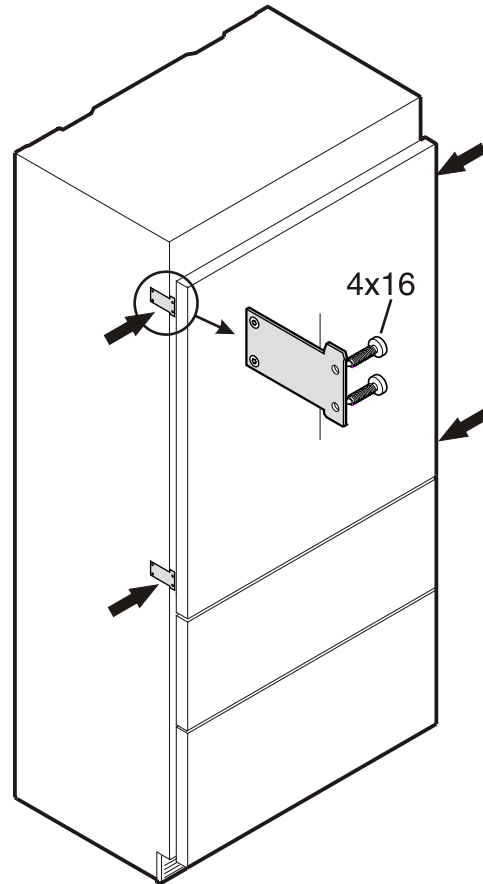

Figure 19
To prevent the appliance from tipping forward the leveling feet ① (Figure 19) must have contact with the floor.
## Fasten the appliance in the recess - Figure 19